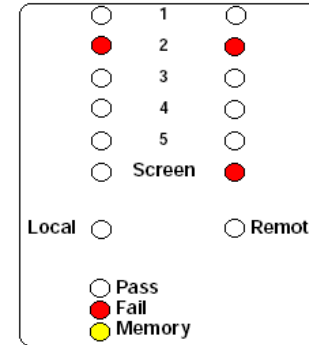

Fig 10. SHORT to Screen
c) A short to SCREEN, this may be indicated by one, or both the screen LED's being ON in conjunction with another pair of LED's (Fig10).